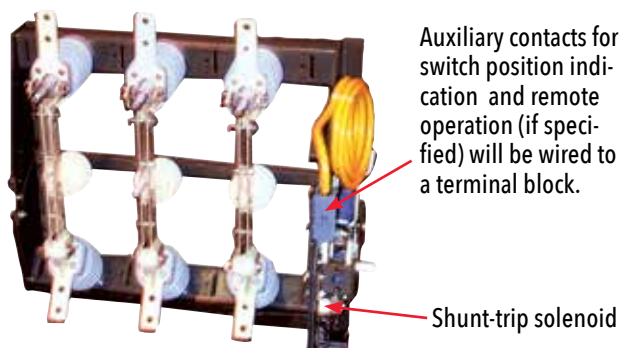

Figure 3
For **Fast-Trip Transfer**, the motor operator is mounted on the side of the switchgear bay in a secure low-voltage compartment and directly coupled to the switch operating shaft. See Figure 3 on page 135. On loss of source voltage, the motor automatically charges and trips the springs of the switch mechanism and instantly trips the switches in approximately 20 cycles. To trip the switch, the motor charges and releases the spring energy, opening or closing the switch blades.
Also illustrated is the Federal Pacific standard Auto-Jet® II switch equipped with the shunt-trip solenoid and latch module (shown in Figure 3 on page 136) and an auxiliary switch with contacts for remote indication.
Figure 3. Automatic-transfer switchgear with Fast-Trip Transfer motor operators is pictured in the photo above. Transfer to the alternate source is achieved in approximately twenty (20) cycles.